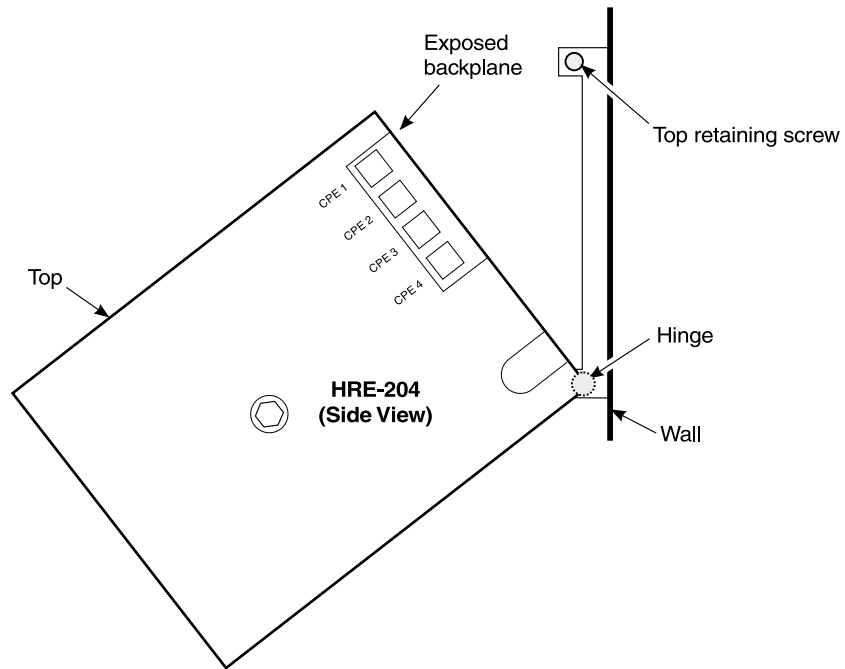

Figure 6. Wall Mounting and Hinging View
- 7 Rotate the main chassis up and snap it into the backplate friction clasps (Figure 6).
When the main chassis is attached to the backplate, it can be rotated down to provide access to the backplane connector and other internal areas. Unlatch the chassis from the two friction clasps in the upper corner of the backplate to lower it. See Figure 6 for hinging details.